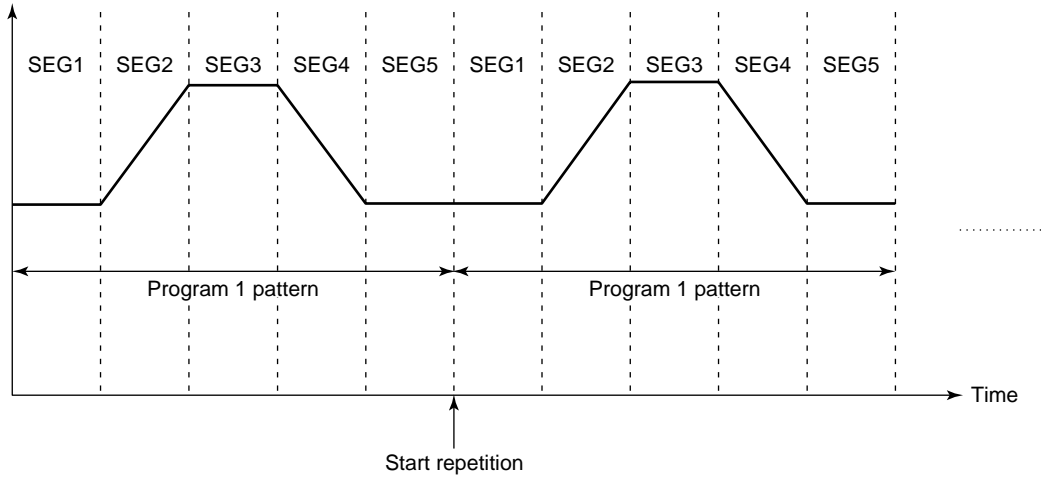

Fig. 5-2-13 Program pattern with program 1 repetition specified
With (3) and (4) above, an identical program pattern can be repeated or program patterns 1 and 2 can be linked. Figure 5-2-13 shows where program pattern 1 is repeated. This repetition will continue until program pattern 1 is stopped with a key operation, by external contacts or via communications.